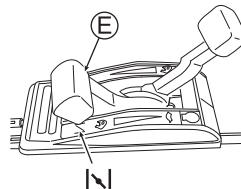

Fig. 10
3. Set the throttle lever (E) to choking "↖". (See Fig. 10) (The engine can start by setting the lever at "↖" when it is warm.)